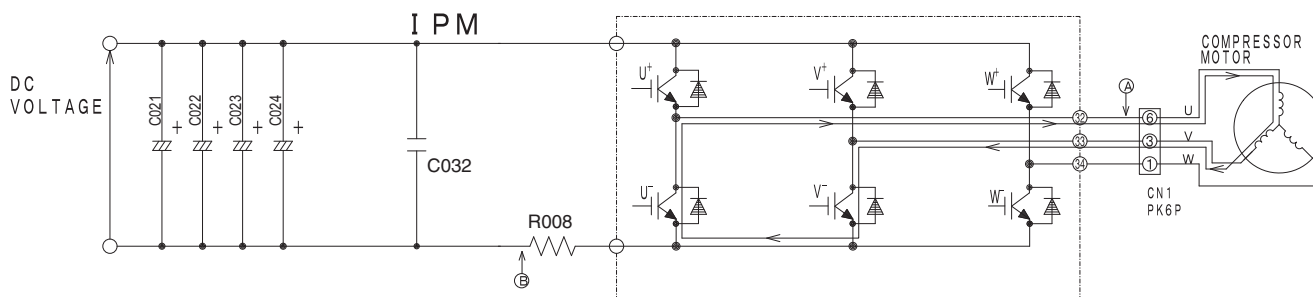

Fig. 7-4 Power module circuit (U+ is OFF, V- is ON)
At point F : U+ is chopped (OFF), V- is ON (circuit in Fig. 7-4)
- (2) When U+ transistor is OFF: (by inductance of motor coil) U coil → V coil → V- transistor → U- diode → Point A (Fig. 7-4)